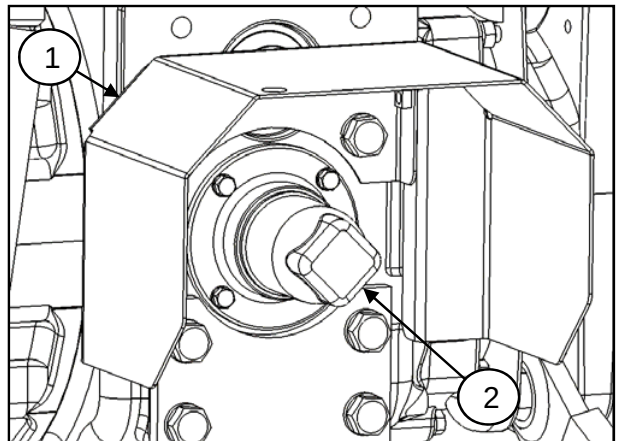

Figure 2-37
The PTO shield (1) in Figure 2-37, is standard equipment. The shield is to be used with all PTO equipment. The PTO cap (2) in Figure 2-37, should always be installed when the PTO is not in use.